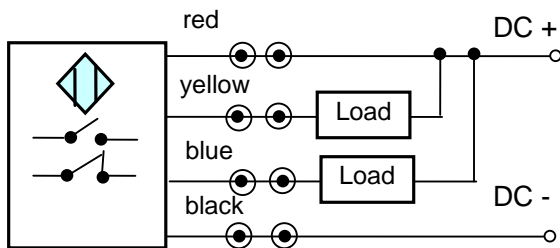

Fig. 3
*2: Option: load connection according to Fig. 3